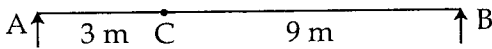

Fig. 2
- (d) In the fillet weld shown in Figure 2, the size of weld is :
(Fig. 2)
2. Define the influence line. Draw the influence line **2+12** diagram for bending moment at a section 'C', 3 m from end "A" of a simply supported beam AB of 12 m span. Also calculate the maximum bending moment at 'C' due to uniformly distributed rolling load 5 m long of 2 kN/m. (refer Figure 2)